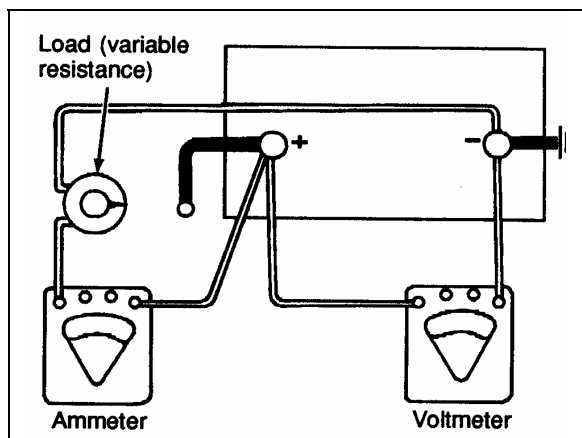

FIGURE 15: LOAD TEST
1. Connect a voltmeter, ammeter, and a variable load resistance as illustrated in figure 15.